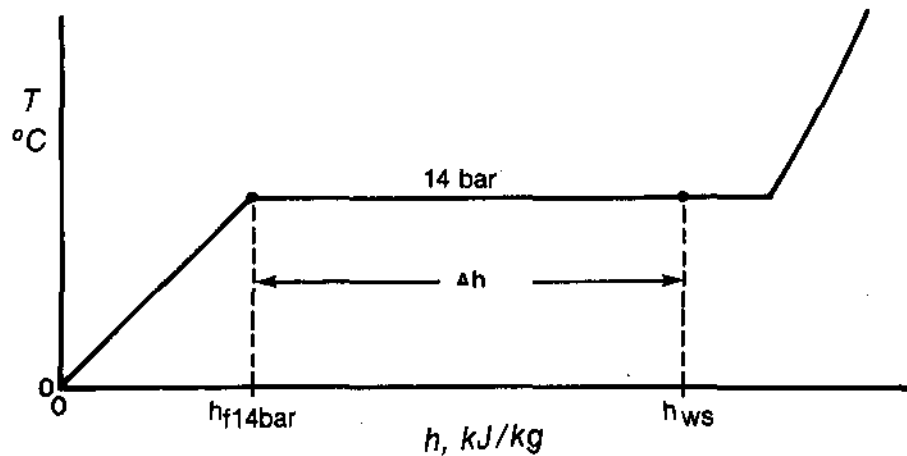

Figure 1.20
1.23) In this case,  $\Delta h$  is  $h_{ws} - h_{f14bar}$ . Since there is no mention of temperature change, we will assume the wet steam to be at 14 bar. This is shown on Figure 1.20:
By inspection of Figure 1.20, you will see that  $\Delta h$  is the same as the percentage of latent heat added to the saturated liquid. Since the steam is 10% wet, 90% is the percentage of latent heat added.